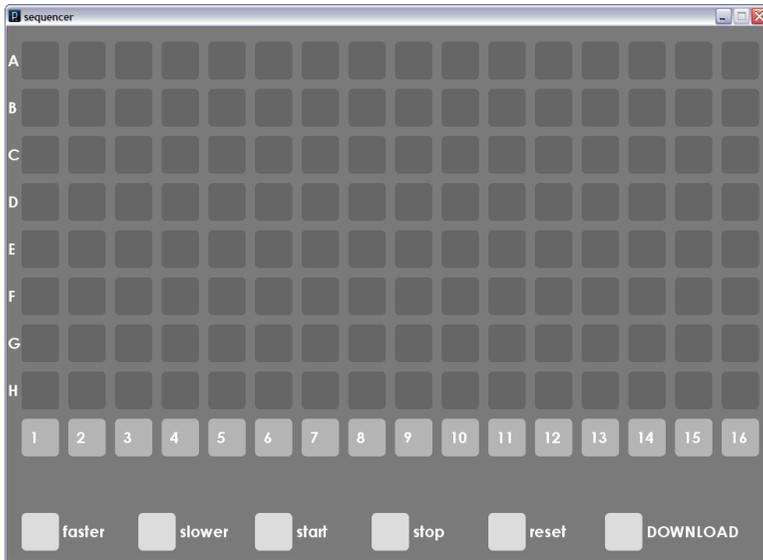

Figure 10
2. The Lightwire graphic sketchpad (figure 10) consists of a grid of 8 x 16 squares with several buttons to control the speed and operation of the Lightwire pattern. You can select and deselect a box by clicking on that box, white for selected and black for not selected.